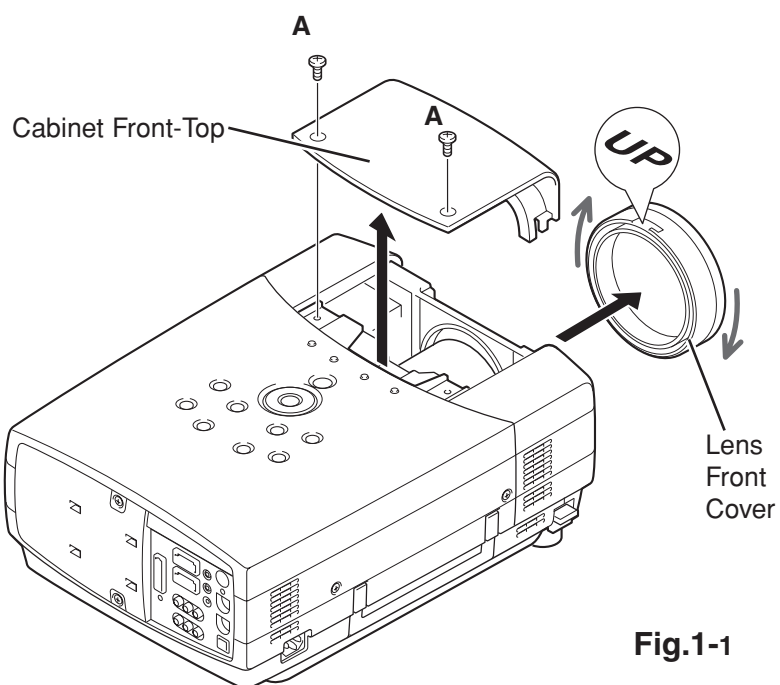

Fig.1-1
- 1 Turn the Lens Front Cover counter-clockwise and take it off by pulling forward as shown in **Fig.1-1**.